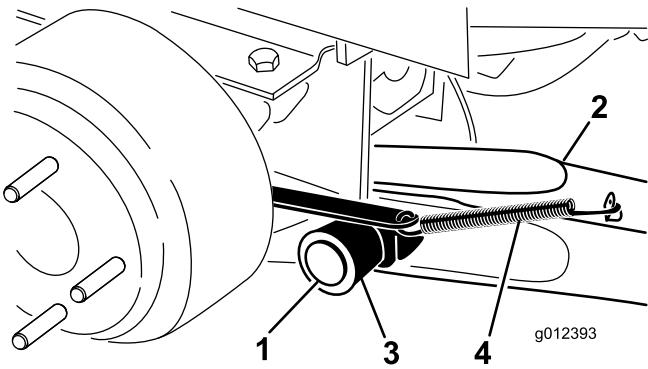

Figure 3
- Mount a lift arm to the pivot bracket with a pivot pin and a cotter pin (Figure 3). Mount the lift arm with the bend positioned outward.
- Hook the brake return spring to the tab on the lift arm (Figure 3).